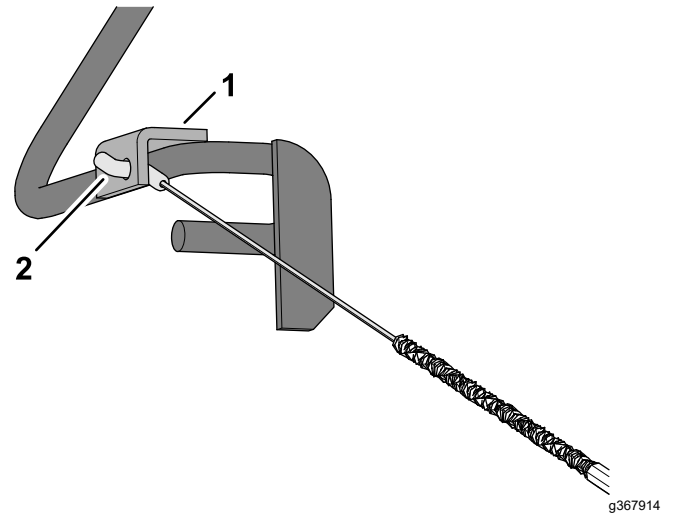

**Figure 10**
2. Insert the cable fitting through the hole in the bracket of the operator-presence bail as shown in Figure 10.